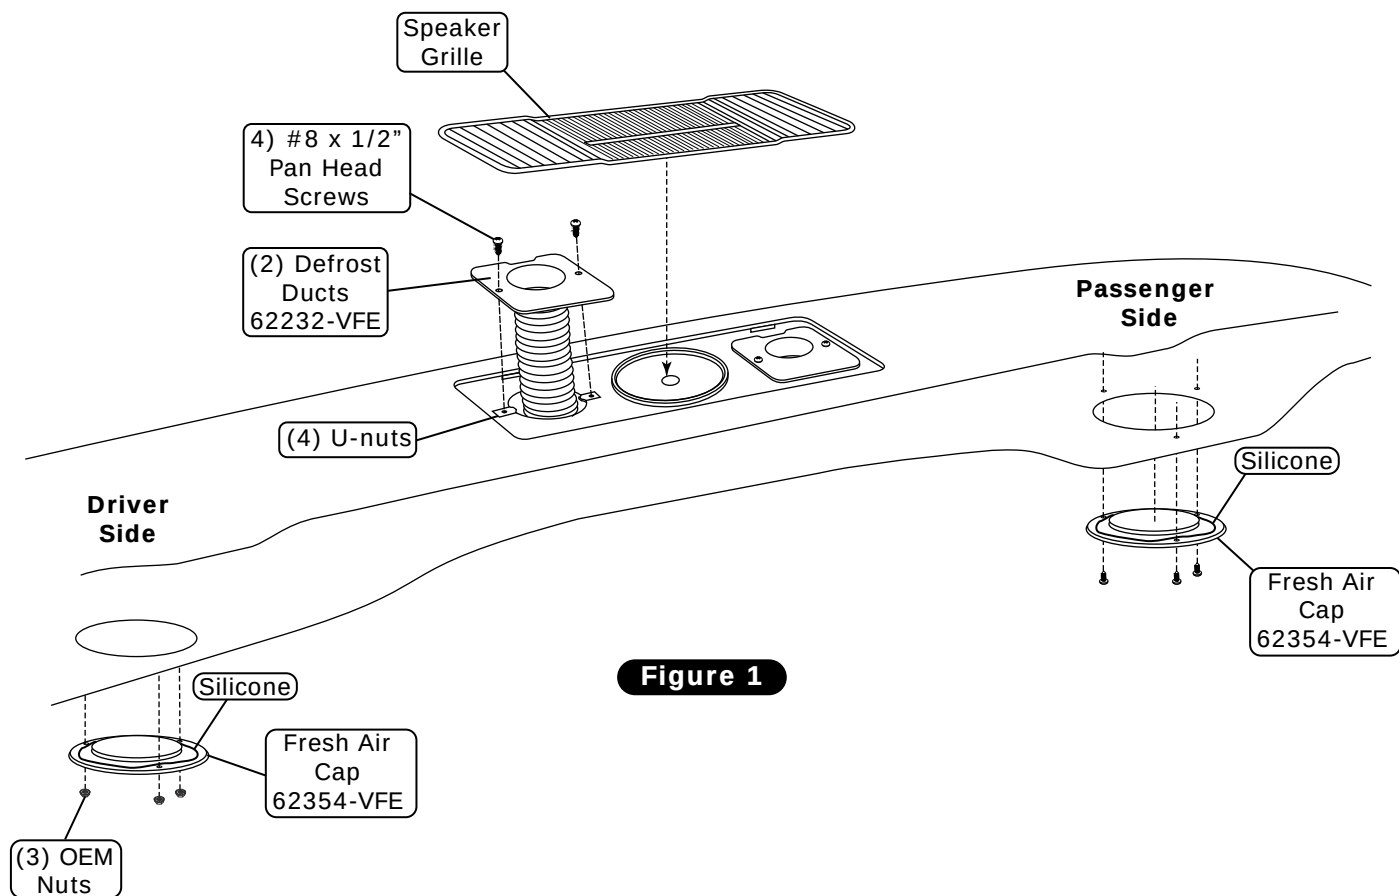

Figure 1
1. Install driver and passenger side defrost ducts using (4) U-nuts and (4) #8 x 1/2" pan head screws (See Figure 1, below). **NOTE: Before installing the driver side duct, attach approximately 24" of the 2" duct hose to the defrost duct. Feed the duct hose into the driver side opening on top of dash and finally attach the defrost duct.**
2. Reinstall speaker grille (See Figure 1, below).